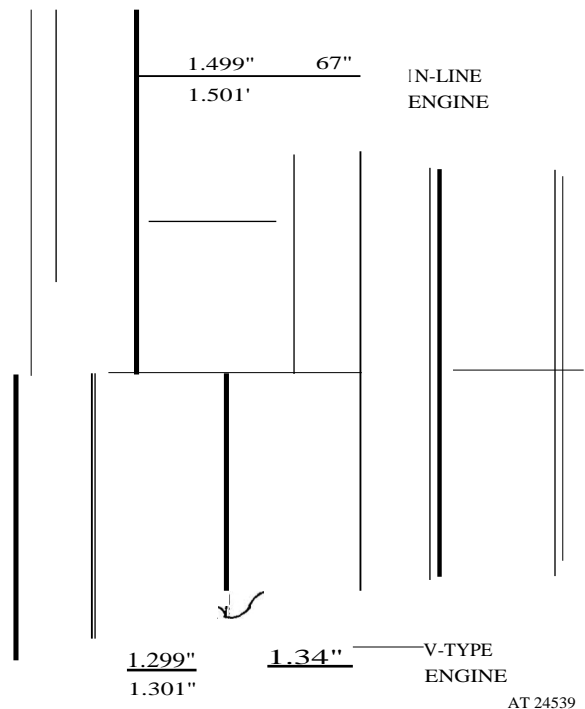

Figure 10. Standard dimensions at rear main bearing thrust washers — In-line and V engines.
9. The amount of grinding necessary on the crankshaft thrust surfaces depends upon how badly the surface is scored or worn. In many cases only slight grinding or "dressing up" of the thrust surface is necessary. In such cases, use of new standard thrust washers will probably Fuld the thrust clearances within the specified .004" to .011" limit. If the thrust clearance exceed .011", use .005" oversize thrust washers in place of the standard washers on the crankshaft rear thrust surface face (against thrust surface "A" fig. 10). The dimensions which indicate that standard thrust washers should be used are illustrated in figure 10. If one of the thrust surfaces is worn more than the other, it may be necessary, after regrinding, to install thrust washers of different thicknesses on either side of the bearing to properly center the crankshaft main journal on the bearing. However, if the crankshaft thrust surfaces are not worn enough to require regrinding, or if the surfaces are worn and ground evenly, thrust washers of equal thickness should be installed. Thrust washers are available in .005" and .010" oversize thickness, as shown in the table.
A comparison of the dimensions in figure 10 with corresponding dimensions on the crankshaft with reground thrust surfaces will indicate the size of thrust washer required to provide the correct clearance. The clearance must not exceed .011" on a new crankshaft or .018" on a used crankshaft.